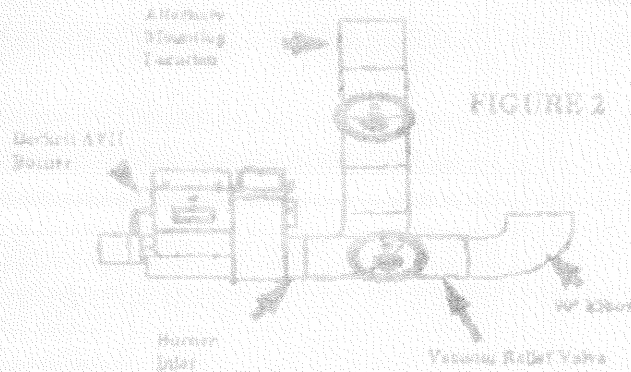

FIGURE 2
- Step 2: Mount VRV assembly at 90° above door (to be done later). Fasten using three (3) shown panel screws on all joints. See Figure 2.